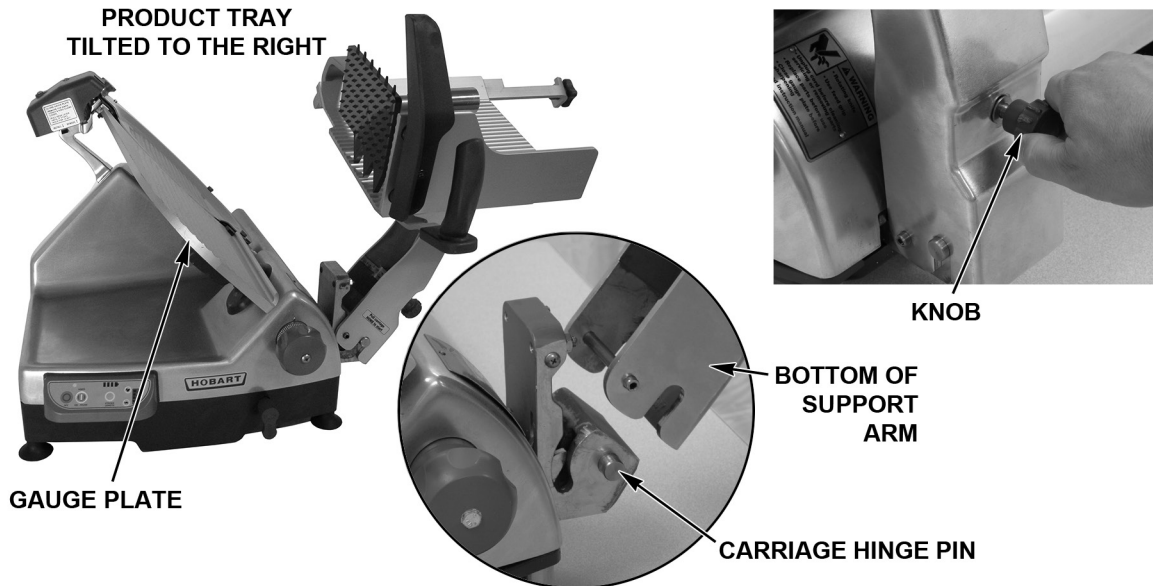

Fig. 24
- Lower the bottom of the Support Arm onto the Carriage Hinge Pins (Fig. 24).